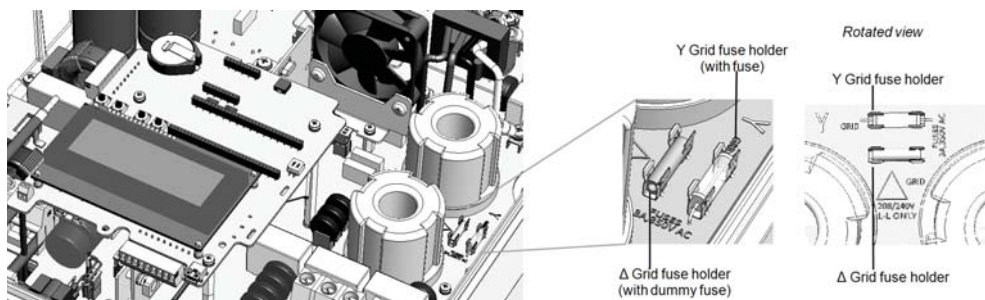

Figure 25: Fuse locations and markings
To set the inverter for Delta grid connection, you must move the fuse from the WYE fuse holder, marked as Y GRID, to the Delta fuse holder, marked as Δ GRID (see *Figure 25*).
2. Identify the fuse locations and the markings as described in *Figure 25*